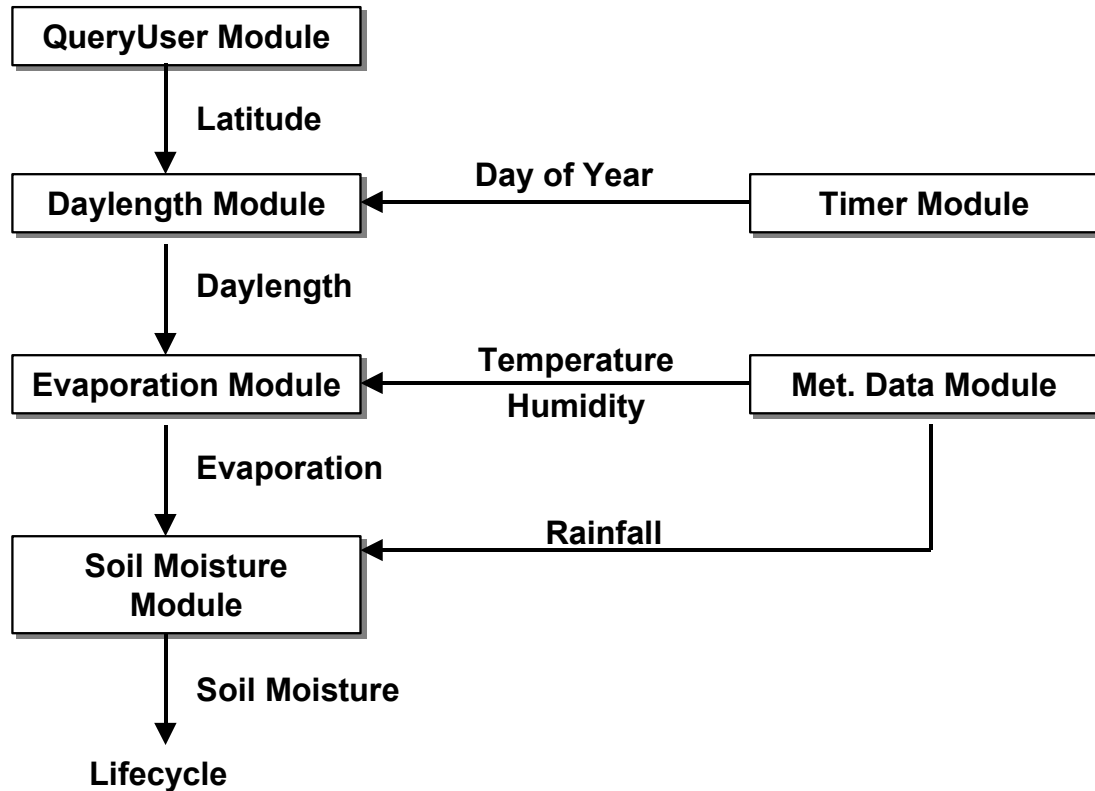

Figure 4.2 Modules for Soil Moisture
The 'Evaporation' module used in DYMEX requires five climatic inputs: minimum temperature, maximum temperature, 9am relative humidity, 3pm relative humidity and daylength. The first four of these are obtained from the meteorological data file and only require that the relevant module be altered so that it is able to read the appropriate information from the file and provide it to the model. The daylength is supplied by a new module, the 'Daylength' module. This module requires two inputs: the day of the year (which is obtained from the 'Timer' module) and the latitude which is set by another new module: the 'QueryUser' module. The best way to envisage the process is to examine a schematic diagram (Figure 4.2).
- n. Exit to the '**Model**' window (which will resemble figure 4.2) and then open the **Lifecycle** window.
There will now be 7 modules in the 'Model' window (figure 4.2). (The user is reminded that the